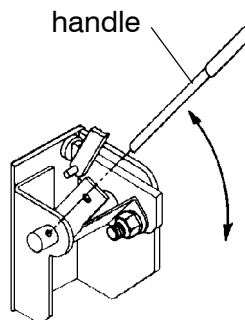

Figure 1-7. Removable maintenance handle on 225, 260, and 400 amp. E-design switches
*225, 260, and 400 amp. E-design* See Figure 1-7.